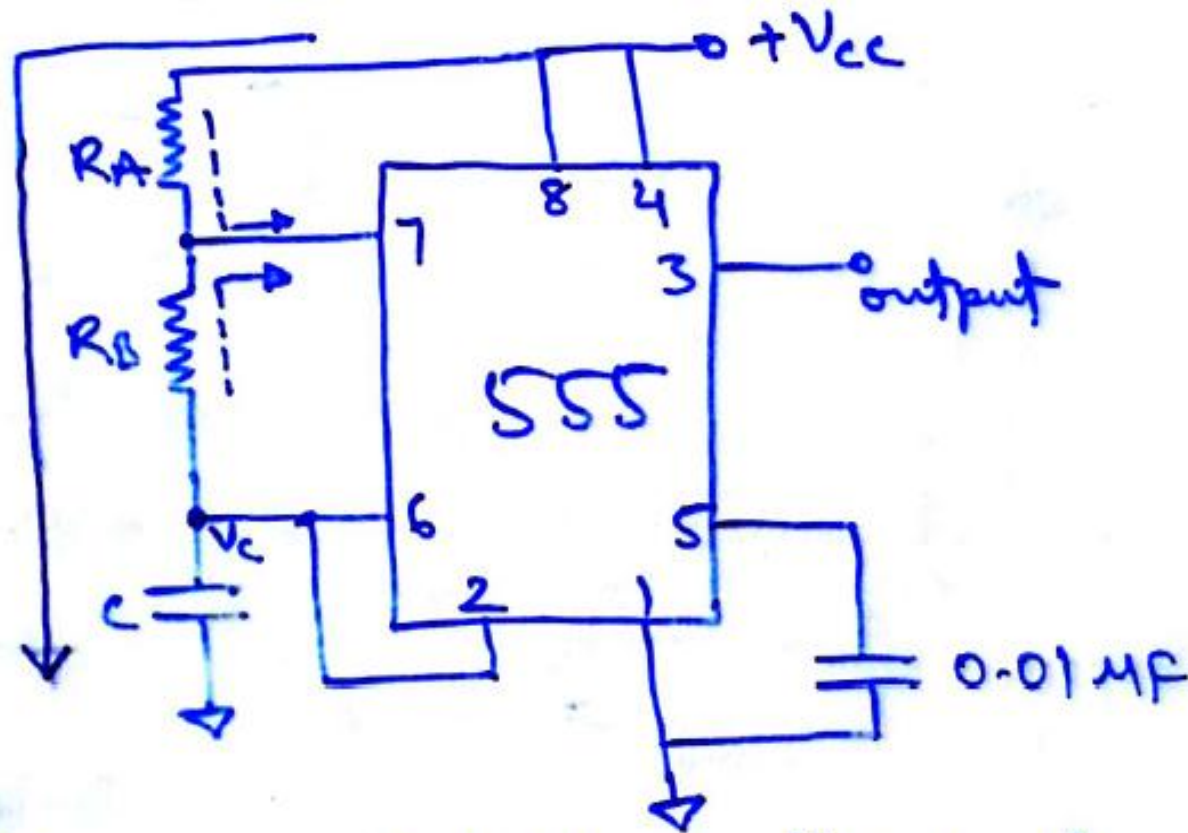

Fig 8-15. Astable multivibrator using 555 timer
- The device is connected for Astable operation as shown in Figure 8.15.
With the circuit configuration of Fig 8.15 it is not possible to have a duty cycle more than 50% since $t_{HIGH} = 0.69 (R_a + R_b) C$ will always be greater than $t_{LOW} = 0.69 R_b C$
Example: Refer Figure 8.15. For $R_a = 6.8 \text{ K}\Omega$, $R_b = 3.3 \text{ K}\Omega$ and $C = 0.1 \text{ }\mu\text{F}$, calculate (a) t_{HIGH} (b) t_{LOW} (c) free running frequency (d) duty cycle D.